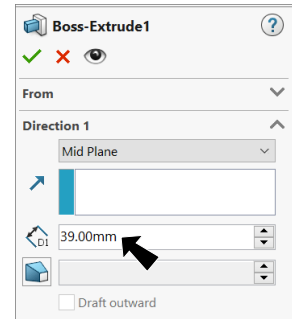

Fig. 16
Step 2. In the Boss-Extrude1 Property Manager set: under Direction 1, **Fig. 16**